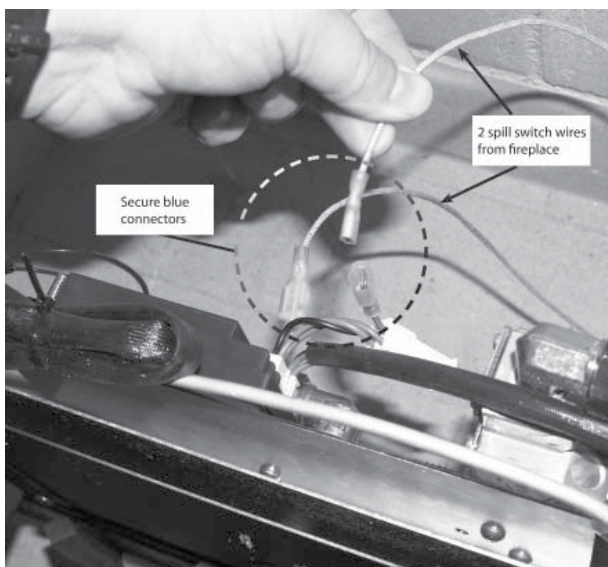

Fig. 3 - Connect spill switch wires
3. Locate the two spill switch wires coming out of the hole in the lower right side of the fireplace. Connect the spill switch wires to the two free wires (coming from the control module) located at the rear of the burner system (see Fig. 3).